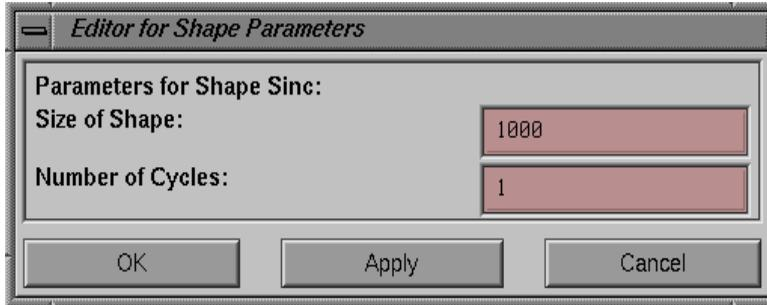

Figure 3.14 Editor for Sinc Shape.
- Enter the following parameters in the parameter editor (Figure 3.14) and then click the **OK** button: